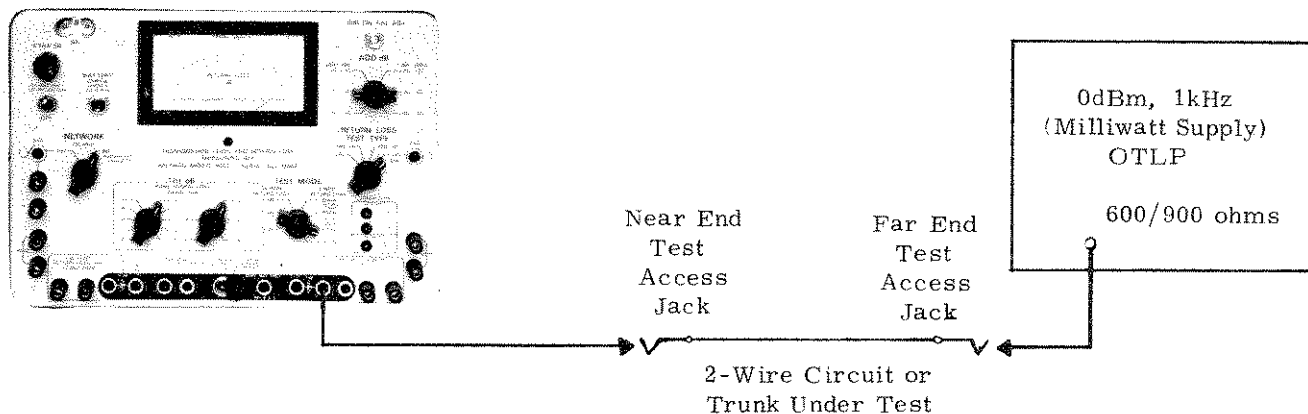

Figure 2-5. 2-Wire Level Measurement (Without Supervision) Test Setup
2.09 Figures 2-5 through 2-8 show how typical level measurements can be made with the Model 9041, on 2-wire or 4-wire circuits (with and without supervision). Each figure is followed by a procedure which describes the method of making the measurement.
1	Connect the signal source and the Model 9041 to the circuit or device under test as shown in Figure 2-5.